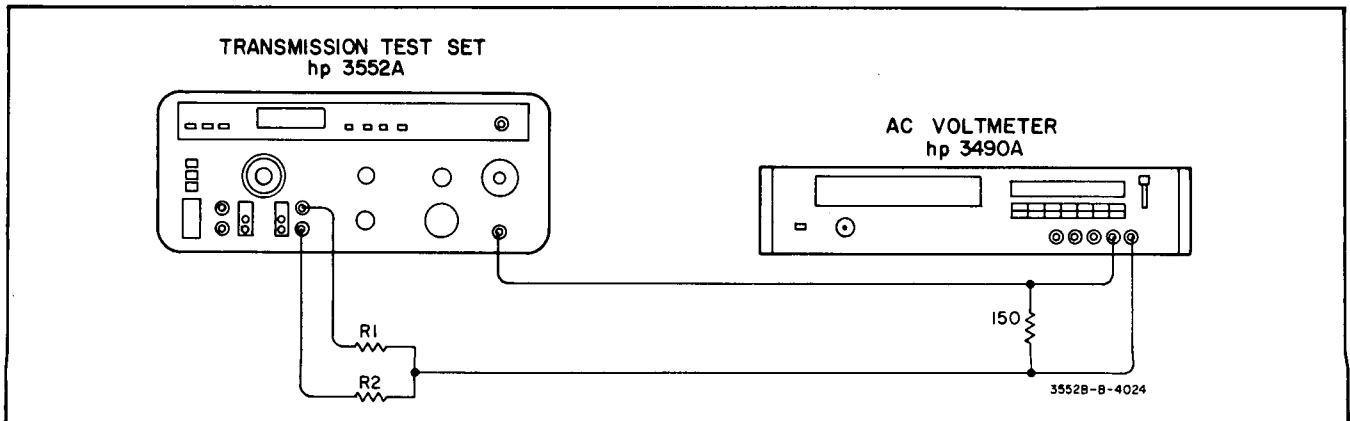

Figure 5-7. Transmitter Balance Test Setup.
e. Connect the equipment as shown in Figure 5-7. Use two 75 ohm resistors for R1 and R2.
g. Repeat Steps a through f for the 600 and 900 positions of the Test Set IMP control. For the 600 position, use a 600 ohm resistor in Step a and two 300 ohm resistors in Figure 5-7 for R1 and R2. For the 900 position use a 900 ohm resistor in Step a and two 450 ohm resistors in Figure 5-7 for R1 and R2.